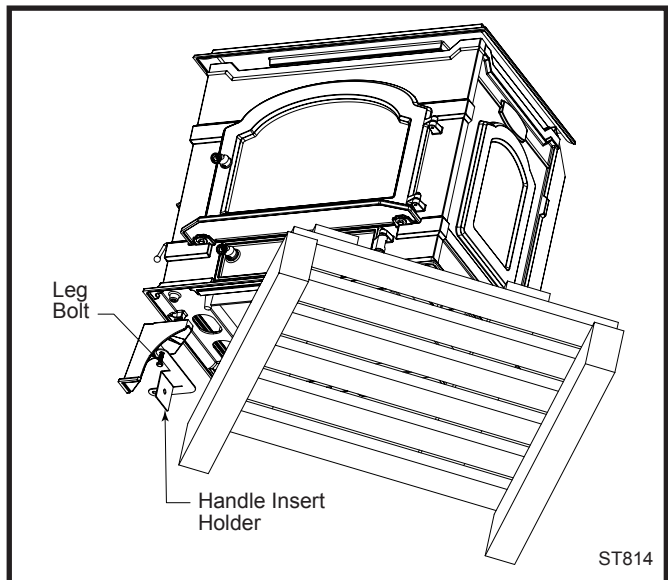

Fig. 20 Rotate stove on pallet to expose front left corner.
2. Rotate the stove counterclockwise until the front left corner overhangs the pallet and the leg-mounting hole is accessible. (Fig. 20)
3. Remove and discard the (4) 1/4-20 x 3/8" hex head bolts that are in the leg holes on the bottom of the stove.